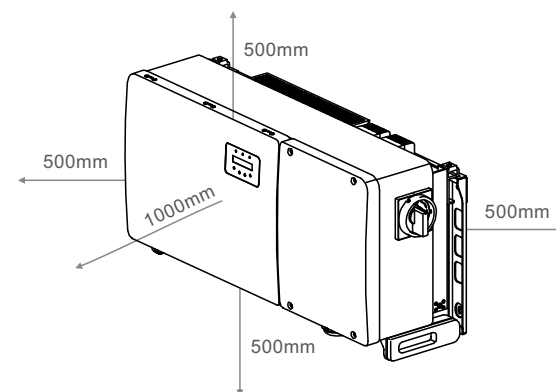

Figure 3.1 Distances required between inverters
- If multiple inverters are installed on site, a minimum clearance of 500mm should be kept between each inverter and all other mounted equipment. The bottom of the inverter should be at least 500mm above of the ground or floor (see Figure 3.1).